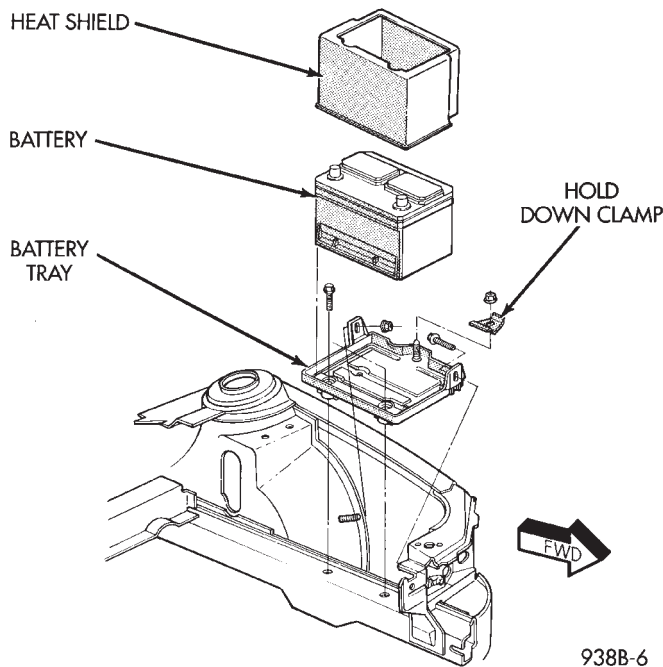

Fig. 14 Battery Removal
- (1) Disconnect the battery terminals. Remove battery and battery tray (Fig. 14).